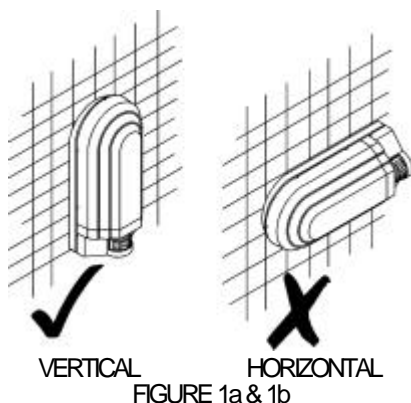

FIGURE 1a & 1b
- The unit can be installed only vertically (FIGURE 1a), not horizontally (FIGURE 1b).